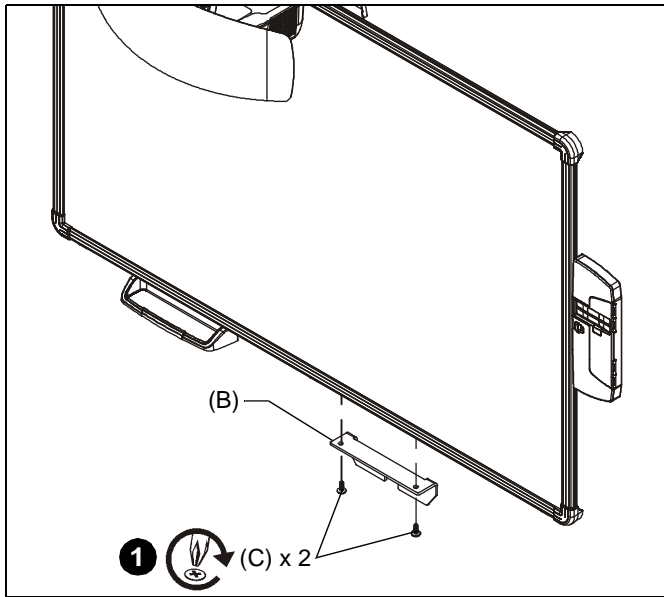

Figure 1
1. Attach bracket (B) at desired location on bottom of screen, using two #8 x 1/2" self-drilling screws (C). (See Figure 1)